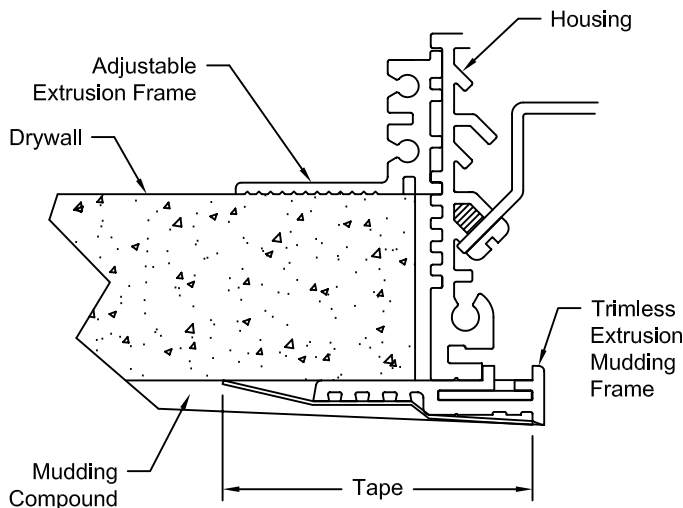

Figure 4
2. Adjust elevation of Housing so that Adjustable Extrusion Frame (set to 5/8" thickness at factory) will sit on top of installed Drywall and bottom of Housing walls match bottom of Drywall surface. See Fig. 4.
3. Install Drywall to edge of Housing. See Fig. 4.
5. Apply Tape to first level of Trimless Extrusion Mudding Frame. See Fig. 4.
6. Apply Mudding Compound from Housing concealing Trimless Extrusion Mudding Frame and Screws. Mudd out as far as necessary to achieve flat ceiling appearance. See Fig. 4.